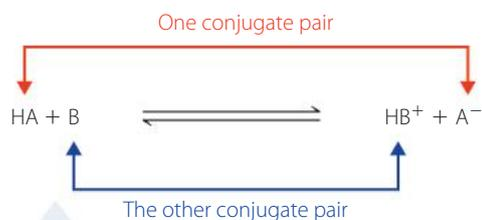

FIGURE 6.3 Conjugate acid–base pairs
The acid (HA) on the left produces a base (A^-) when it loses a proton (H^+). The base (B) on the left produces an acid (HB^+) when it accepts a proton. These acid–base pairs are called **conjugate pairs**. Figure 6.3 shows the pairs diagrammatically.